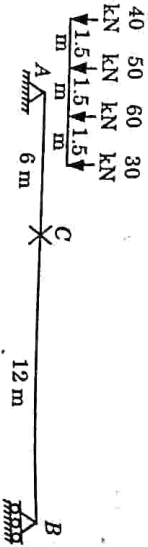

Fig. 11.
- c. A train of four concentrated loads crosses a simply supported girder of 10 m span with 30 kN leading. See Fig. 11. Determine
Given: Beam shown in Fig. 11.